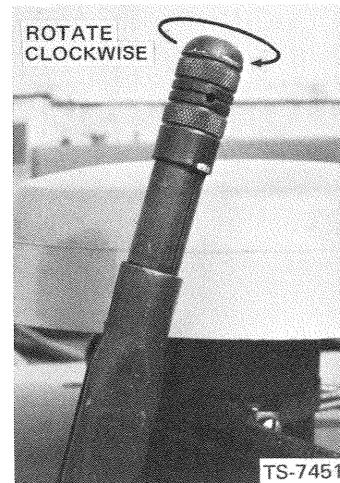

Fig. 9-3 Parking Brake
1. With lever in release position turn acorn on end of handle clockwise as shown in Fig. 9-3.